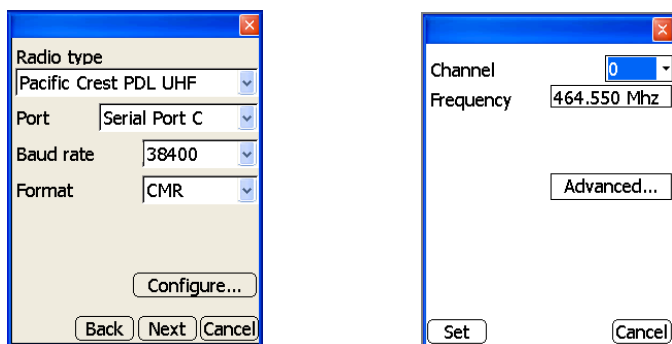

Figure 2-18. Radio Setup and Channel Configuration Dialog Boxes
On the **radio setup** dialog box, set the following parameters (Figure 2-18):
- Configure – changes the radio channel. Press **Configure** to display the **channel configuration** dialog box (Figure 2-18). Select the desired channel and the corresponding Frequency displays. Press **Set** to apply the radio channel parameters.